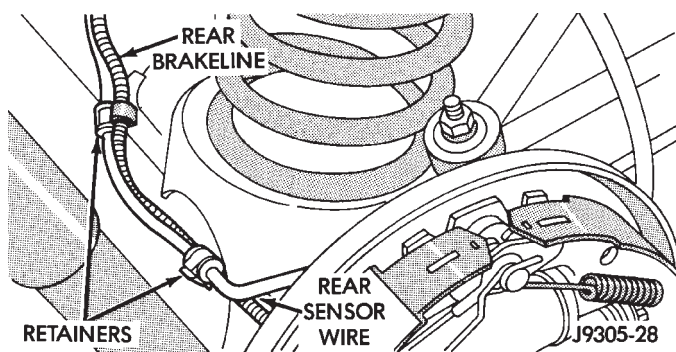
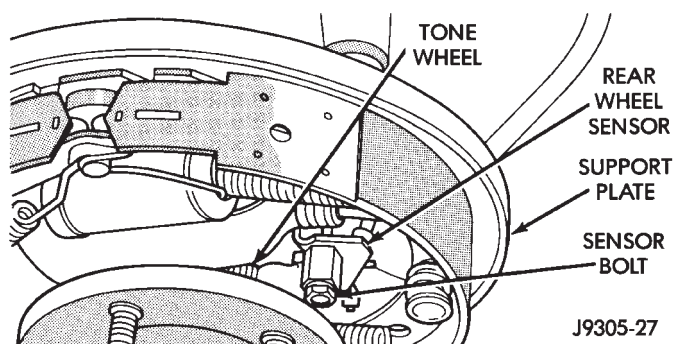

Fig. 21 Sensor Wire Attachment
Fig. 22 Sensor Mounting
- (1) Raise and fold rear seat forward. Then move carpeting aside for access to rear sensor connectors.
- (2) Disconnect rear sensor wires at harness connectors.
- (3) Push sensor wires and grommets through floorpan holes.
- (4) Raise vehicle.
- (5) Remove wheel and brake drum.
- (6) Disengage sensor wire from axle and chassis brackets and from brakeline retainers (Fig. 21).
- (7) Unseat sensor grommet from brake support plate.
- (8) Remove bolt attaching sensor to support plate bracket (Fig. 22).
- (9) Remove sensor and wire through opening in support plate.